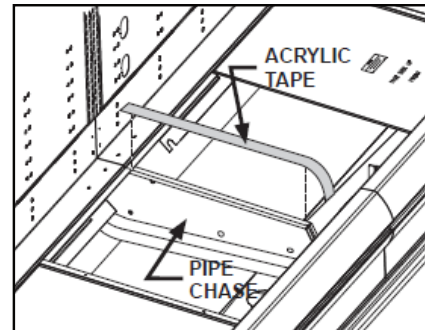

Fig. 67 Sealing the pipe chase
1. Seal the interior case-to-case joints with the caulk and the acrylic tape from the ship loose parts applied over the pipe chase seam (Fig. 67). The tape acts as a watershed, preventing water from settling in the case joint.